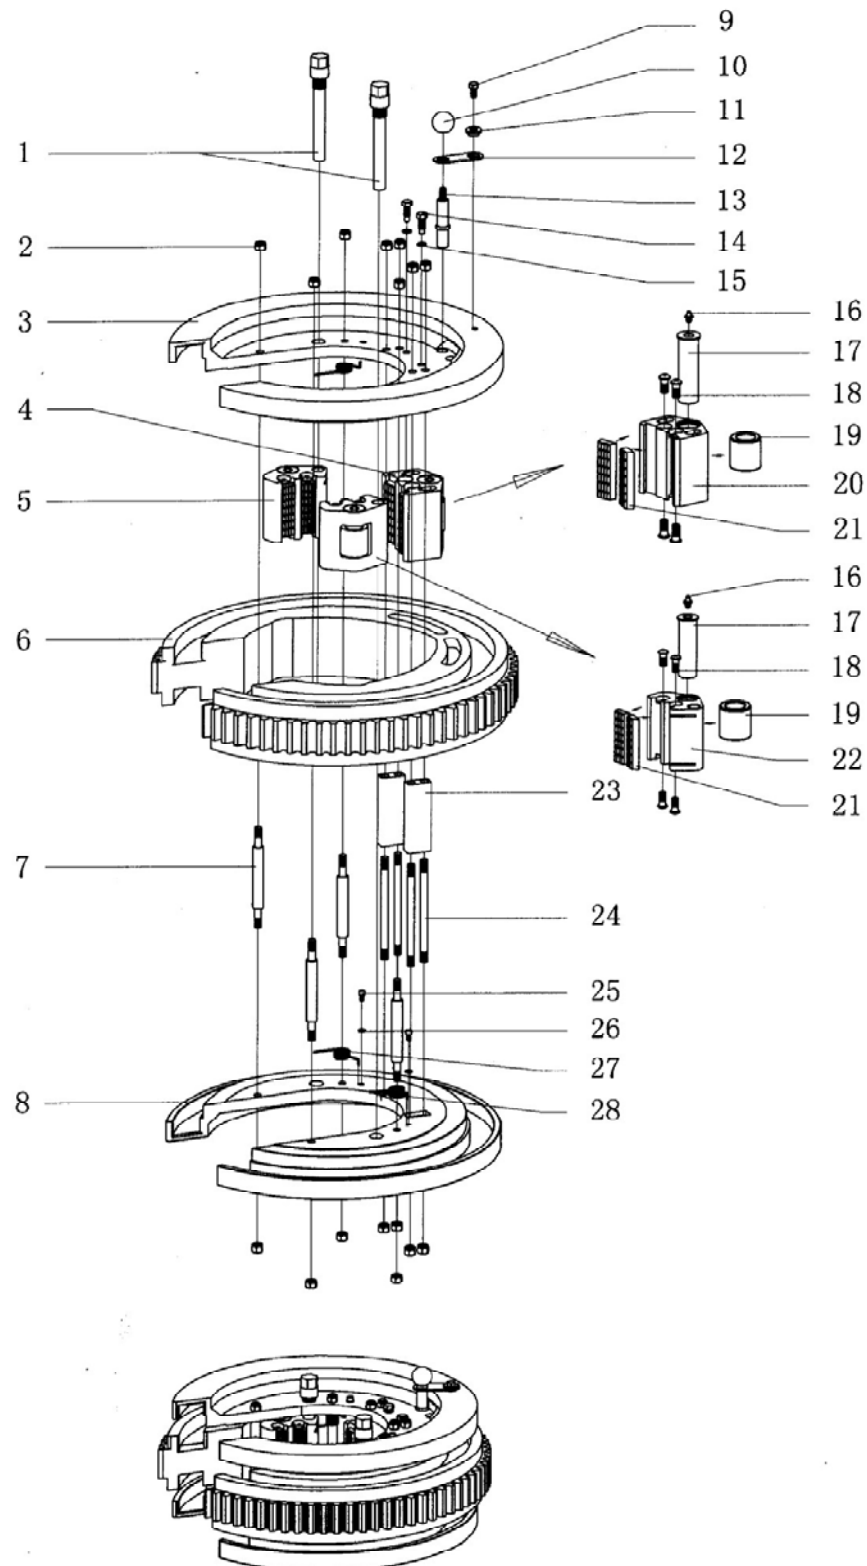

Fig 6
- 7.3. Tong head assembly (Fig6, Table5)
7.3. Tong head assembly (**Fig6, Table5**)